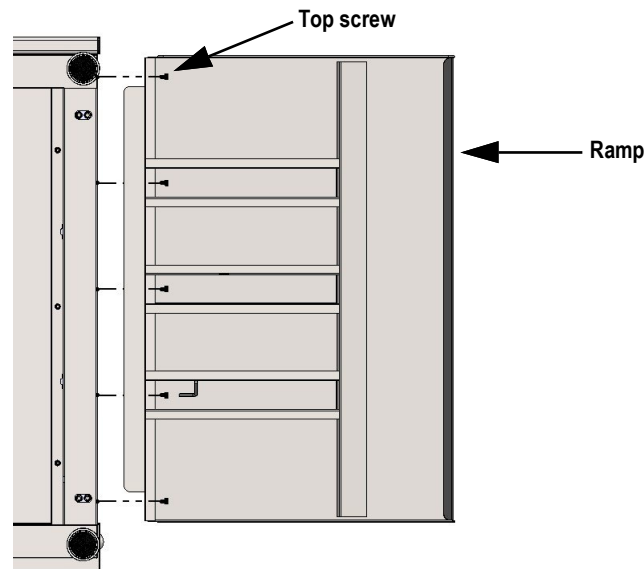

Figure 2-11. Attaching Ramp to Scale
1. Hold the ramp vertically against the end of the scale (see Figure 2-11).